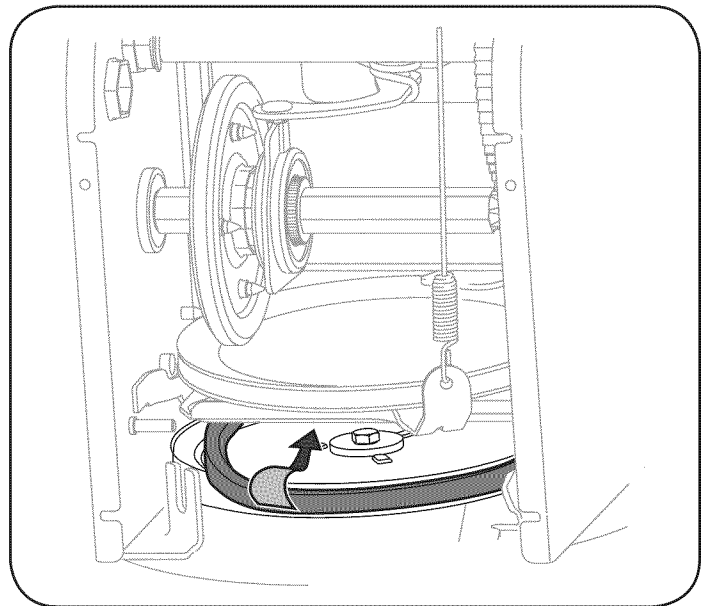

Figure 31
- Remove the belt from around the auger pulley, and slip the belt between the support bracket and the auger pulley. See Figure 31.